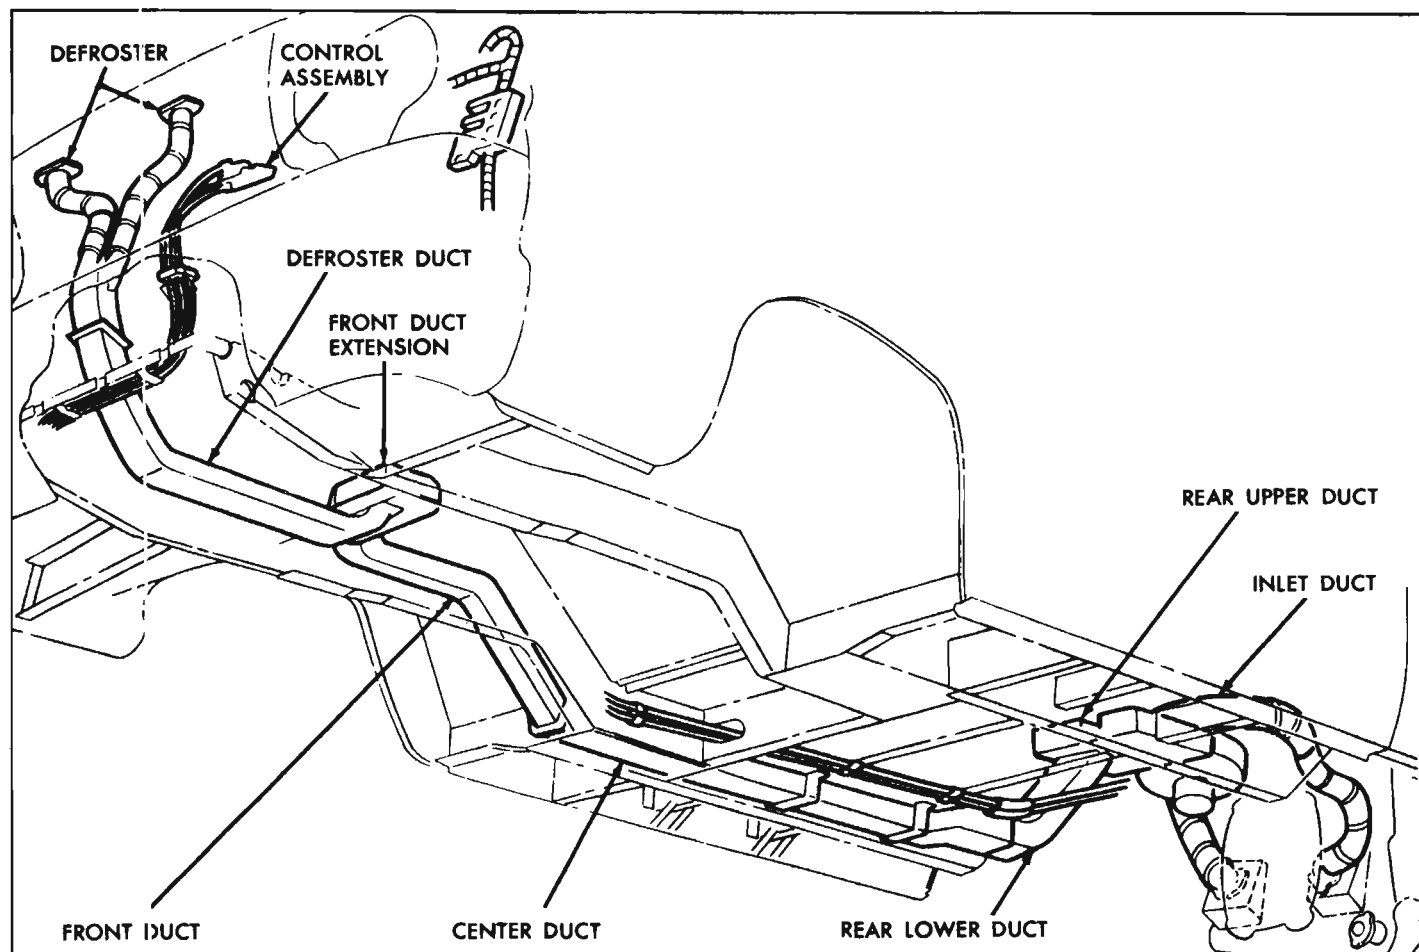
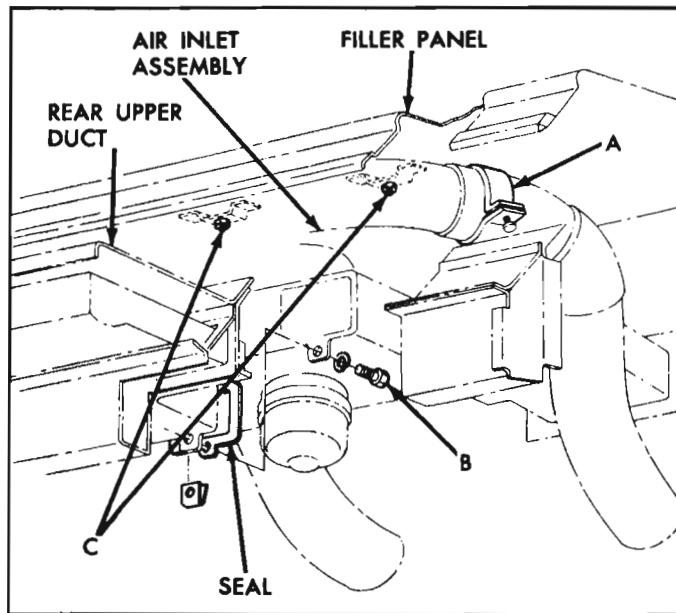

Fig. 11-41—Corvair 95 Direct Air Heater Components
Fig. 11-42—Heater Housing Assembly Removal
The Direct Air Heater as installed in the Corvair 95 is basically the same unit as previously described in the preceding service information on the Corvair Sedan styles. The main differences occur in the body air passages and in the procedure for removing the air inlet assembly. Figure 11-41 illustrates the components of the system including the single air passage from the rear of the vehicle to the front through which the heated air is routed. The single passage replaces the two ducts in the rocker panels in sedan styles. Figure 11-42 illustrates the removal procedure for the air inlet assembly. Notice that the cross air duct, which in the sedan styles is included as a part of the heater
2. Loosen the clamp (A, fig. 11-42) attaching the air hoses from the engine to the housing assembly and remove that end of the hoses from the assembly.
3. Remove screw B, Figure 11-42, attaching the housing assembly to the rear upper duct.
8. Place the entire unit on a covered bench and separate the inlet assembly from the filler panel by removing nuts C, Figures 11-42 and 11-43, from the filler panel studs.
4. At the front of the air inlet assembly, replace the inlet assembly to rear upper duct attaching screw B, Figure 11-42.
5. Tighten nuts C, Figures 11-42 and 11-43.